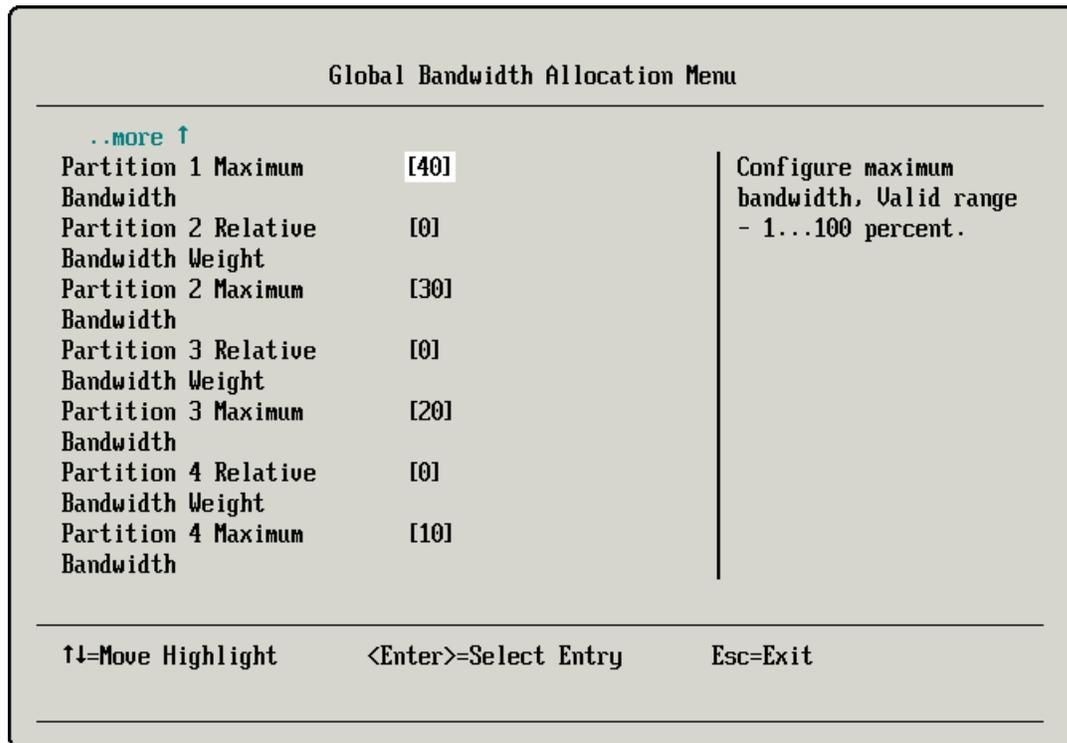

Figure 10-51 Global Bandwidth Allocation Menu panel
10. In the Global Bandwidth Allocation Menu panel (Figure 10-51), set the bandwidth allocation parameters in this panel. In this example, we use the following configuration: